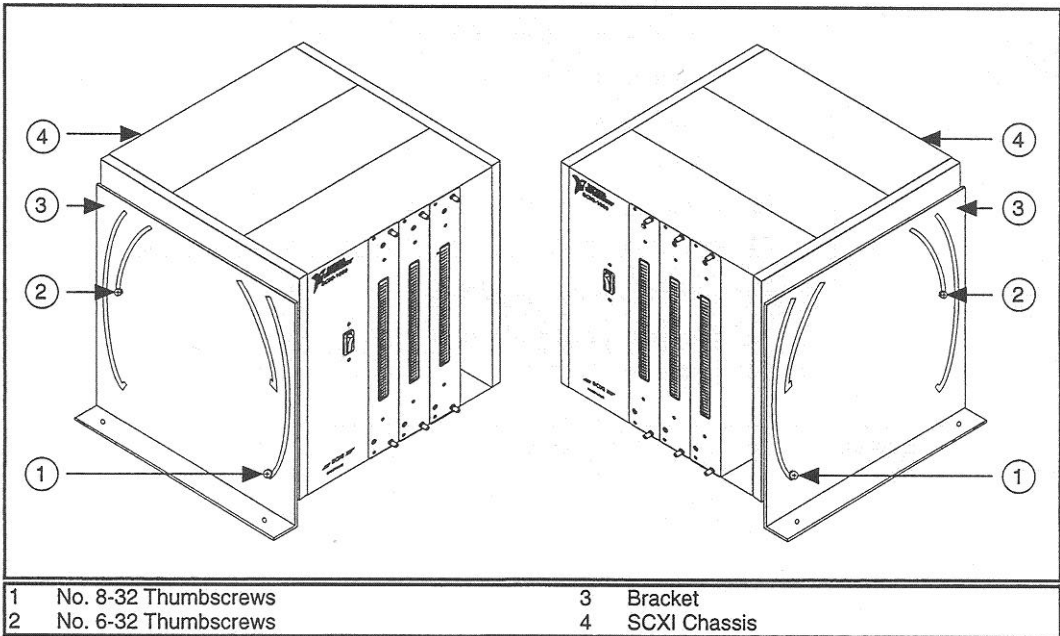

Figure 1. Chassis Panel-Mount
1. Attach a bracket to each side of your SCXI chassis with the supplied thumbscrews. Refer to Figure 1 for thumbscrew placement.